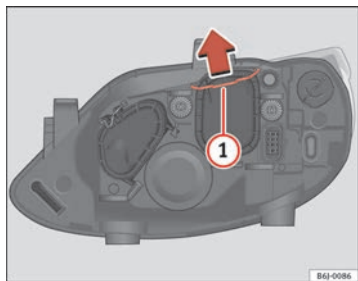

Fig. 133 Dipped head-lights
- Remove the loop ⇒ fig. 133 ① in the direction of the arrow and remove the cover.